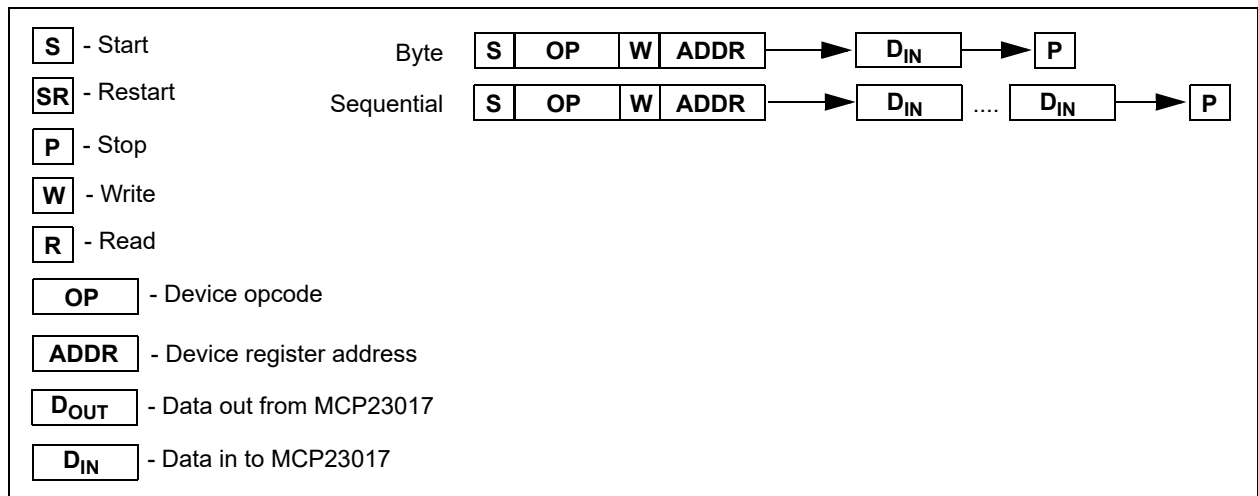

FIGURE 3-1: *Byte and Sequential Write.*
The I²C write operation includes the control byte and register address sequence, as shown in Figure 3-1. This sequence is followed by eight bits of data from the host and an Acknowledge (ACK) from the MCP23017. The operation is ended with a Stop (P) or Restart (SR) condition being generated by the host.